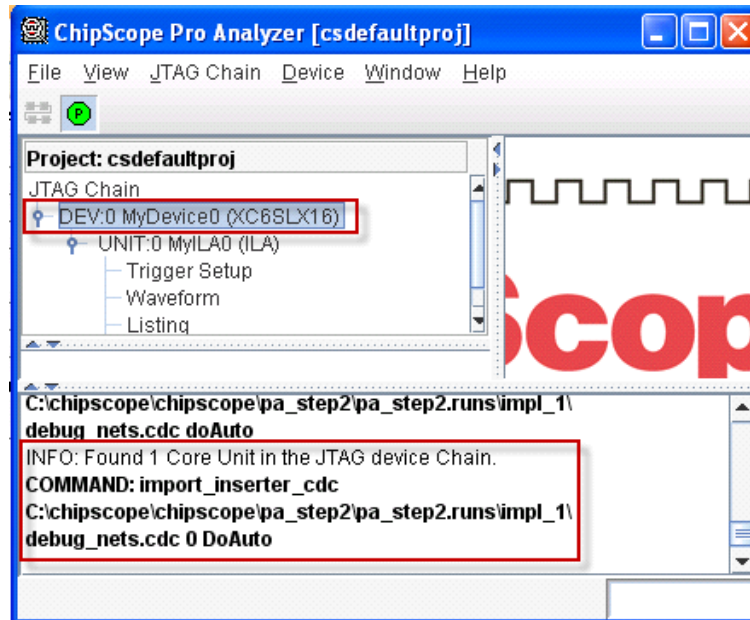

Figure 6: Device Configuration and ILA Core Information
- c. You can now verify the device configuration and ILA core in the ChipScope Pro Analyzer main window, as shown in Figure 6.
1. With the item **DEV:0 MyDevice0 (XC6SLX16)** expanded, as shown in Figure 6, double-click **Trigger Setup**. The **Trigger Setup** display appears in the upper right pane.